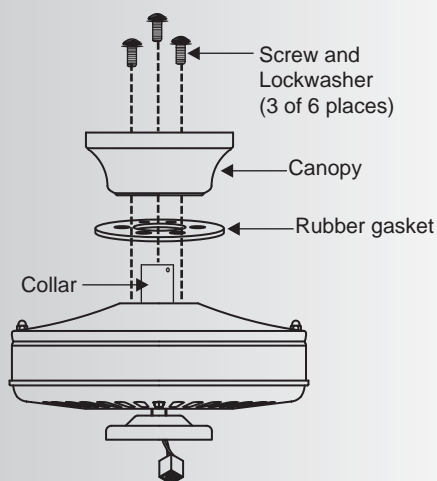

Fig. 10
Step 2. Remove three of the six screws and lock washers (every other one) from the coupler on top of the motor assembly. Place the ceiling fan canopy and the rubber gasket over the coupler and align the mounting holes with the holes in the coupler. Attach the canopy with the rubber gasket and the three screws and lock washers previously removed. (Fig. 10)